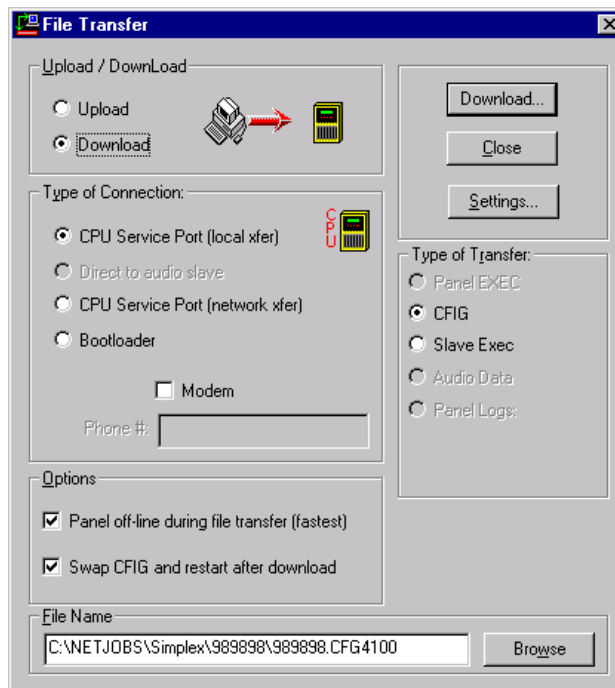

Figure 14-1. File Transfer Utility
The 4100U File Transfer utility, shown in Figure 14-1, can be started from within the 4100U Programmer or from the Windows Start menu. To do either of these, follow these steps.
In both cases, the File Transfer Utility, shown in Figure 14-1, appears.
1. In the File Transfer utility screen (Figure 14-1), click on the **Settings** button. A window similar to the following appears. This window allows you to specify the settings for the serial communication parameters used by the PC.